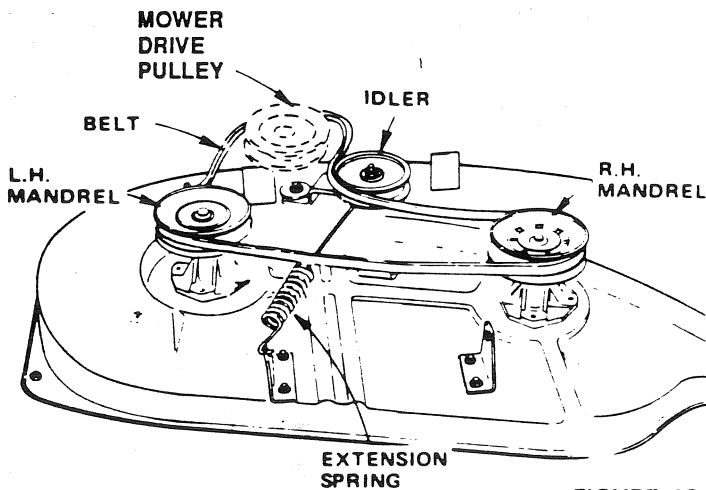

FIGURE 43
4. With belt routed around R.H. Mower Mandrel and Idler Pulley, roll belt over Mower Drive Pulley (Fig. 43) Drive Schematic Decal on Mower Housing.
3. Roll Belt off L.H. Mandrel Pulley (fig. 43).